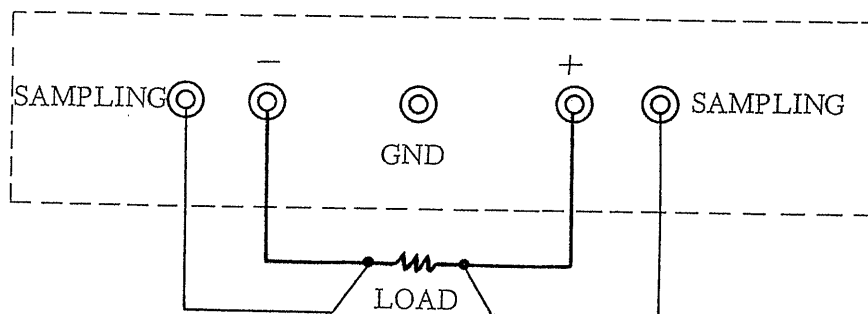

Fig. 2
- ① Output voltmeter (full scale : 35 V)
- ② Output voltage control knob : Clockwise rotation increases voltage, which can be continuously varied in a range of 0 to 35 V.
- ③ Knob for fine adjustment of ② : Capable of varying approximately ± 0.5 V.
- ④ Output ammeter (full scale : 5 A)
- ⑤ Pilot lamp for AC input
- ⑥ 4-ampere slow-blow type fuse : : Provided on AC input side.
- ⑦ Power switch: Setting to ON-side turns on power and lights pilot lamp.
- ⑧ Output terminals: Normally Model 7124A is used with positive or negative terminal connected with GND terminal (electrically connected with chassis and panel) by means of accessory short bar. It is also possible to operate the equipment by applying DC bias of +100 V maximum.
- ⑨ Sampling terminals: To be used when load current is great and lead wire from output terminal to load becomes long, and resultant voltage drop can not be ignored. Connection is shown in Fig. 2.